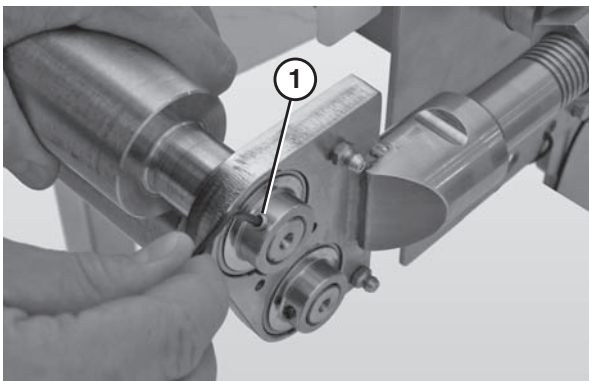

Figure 89
- Use a 4 mm hex wrench to loosen all the bearing fasteners (Figure 89, item 1).